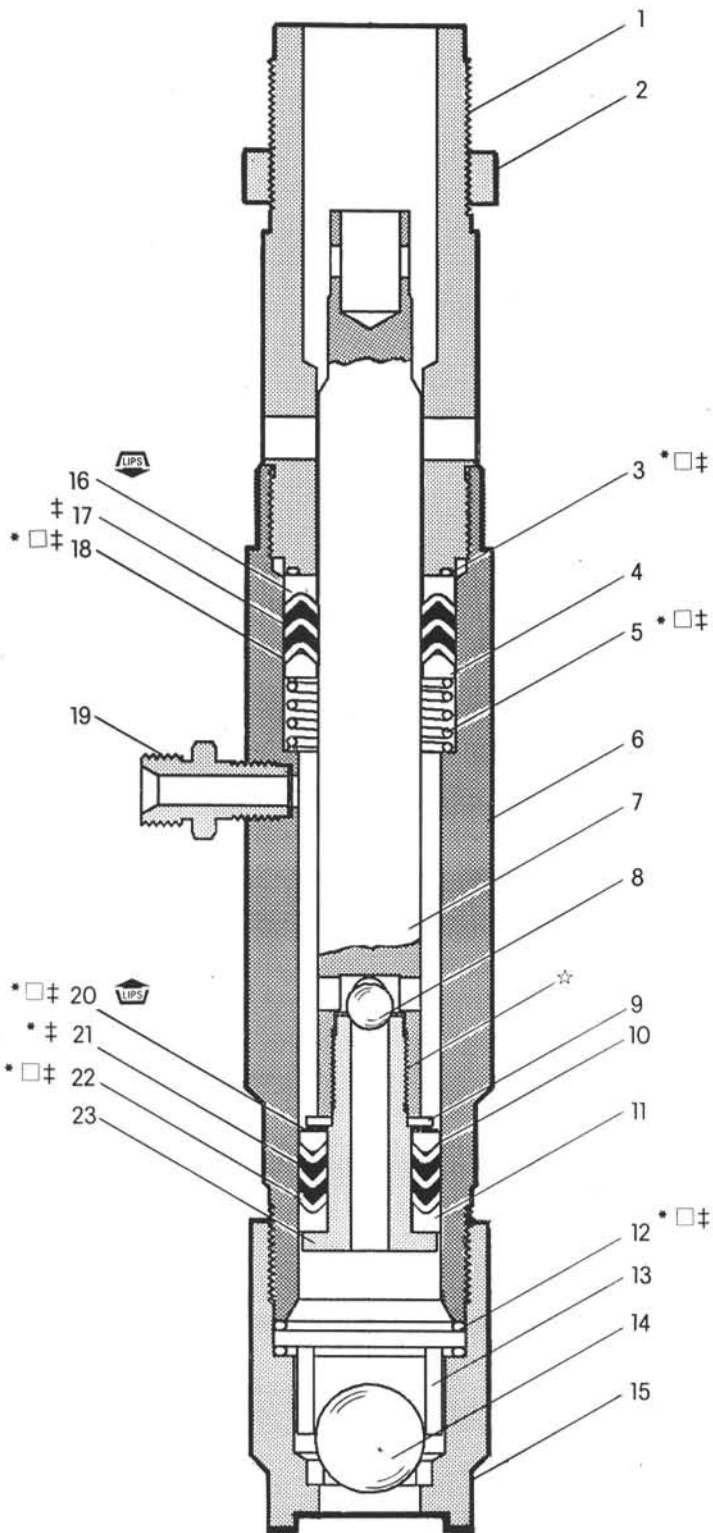

FIGURE 3
- 637154-X Service Kit for Lower Pump End Repair (See Fig. 3)
CAUTION: When assembling packings and washers, be sure they are assembled correctly as shown in Figure 3.